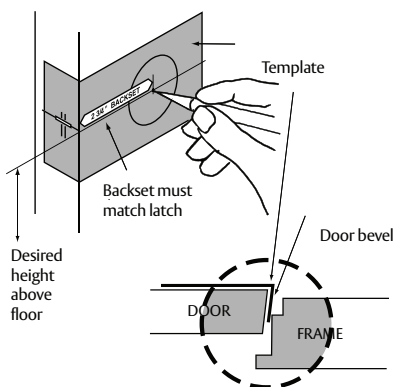

Figure 1
1. Use template A8335 to mark the door (Figure 1).